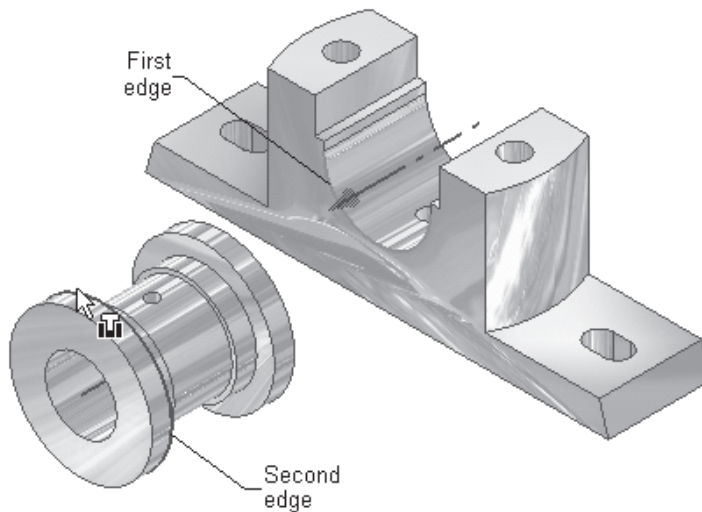

Figure 8-54 Selecting the faces to apply the **Insert** constraint
2. Place the Brasses using the **Place Component** tool. Invoke the **Place Constraint** dialog box using the **Place Constraint** tool. Choose the **Insert** button from the **Type** area and select the semicircular edge of the Casting as the first edge to apply the constraint, see Figure 8-54.
3. Select the circular edge of the Brasses shown in Figure 8-54 as the second edge to apply the constraint. Make sure the arrow points in the backward direction. Choose the **Apply** button.